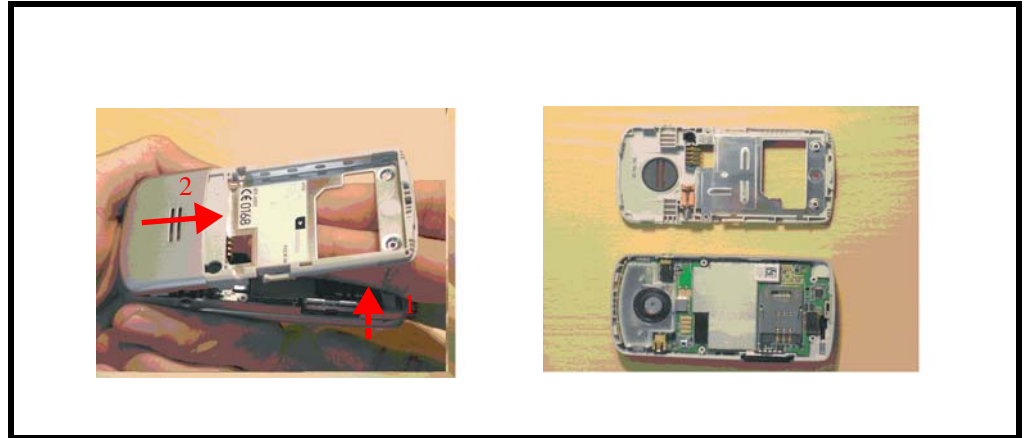

Figure 10. Removing the Lower Housing Cover
4. Push the Case D forward to release Case C & D and remove Housing D in Figure 10.